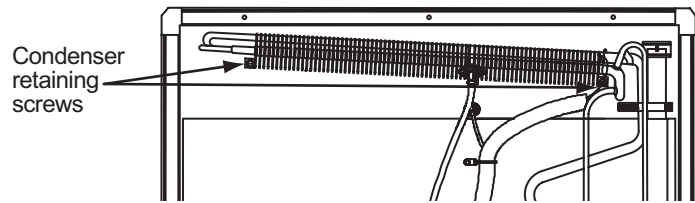

Figure 35. Condenser angle and retaining screw
12. Remove the power board cover retaining screws (3), then remove the cover.
21. Remove the condenser retaining screw. See Figure 35, page 38.